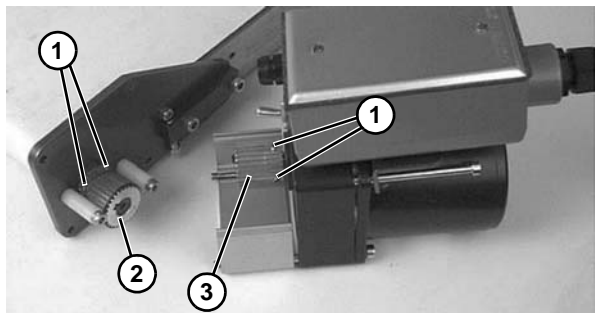

Figure 55
2. Loosen set screws (**Figure 55, item 1**) and remove driven pulley (**Figure 55, item 2**) or drive pulley (**Figure 55, item 3**).